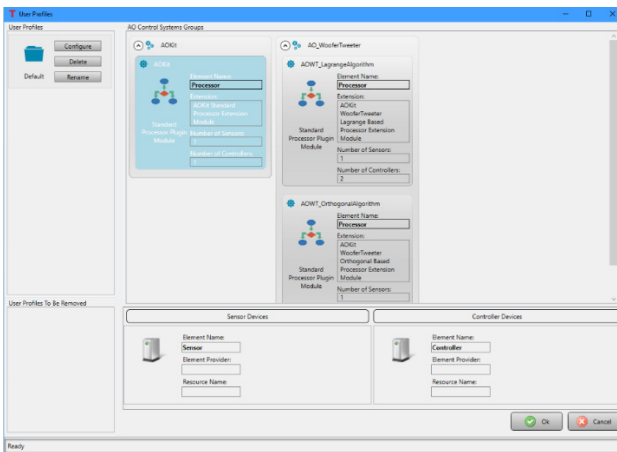

Figure 3 User Profiles Window
3. From the Main window, click **User Profiles->Configure User Profiles** button. The User Profiles window is displayed. The top-right section of the AO Control Systems Groups panel shows the information of the control groups, the control systems and the Processors (in available) included in the Default user profile. The bottom-right section shows the information of the sensor devices and/or controller devices used in the highlighted control system. At this step, no physical devices have been selected and the information of the Element Provider and the Resource Name are blank. See Figure 3.